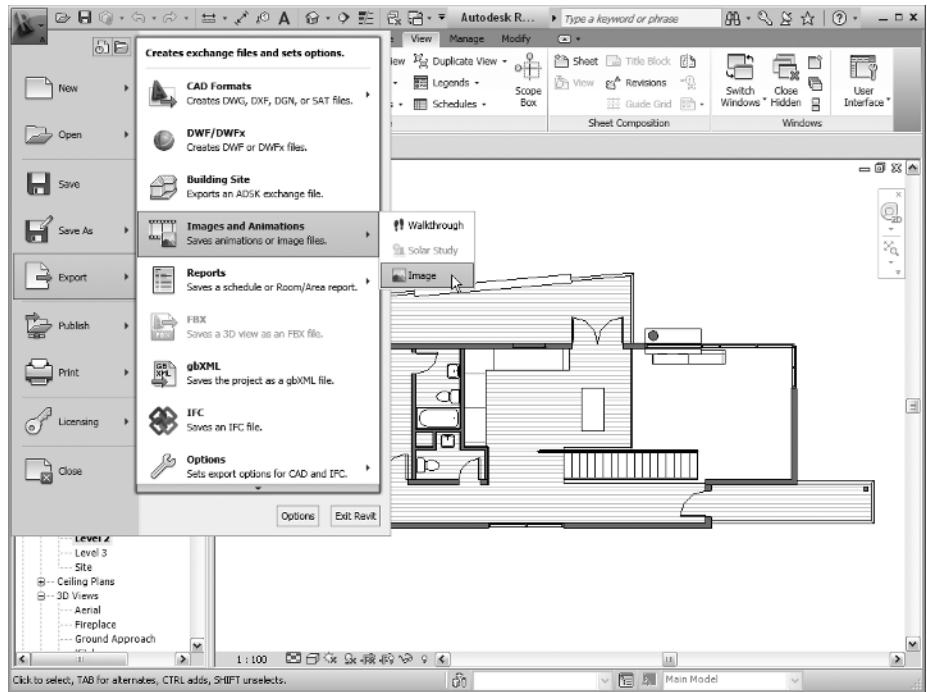

Figure 1.20 Exporting an image from Revit
3. Choose Revit menu > Export > Images And Animations > Image (Figure 1.20).